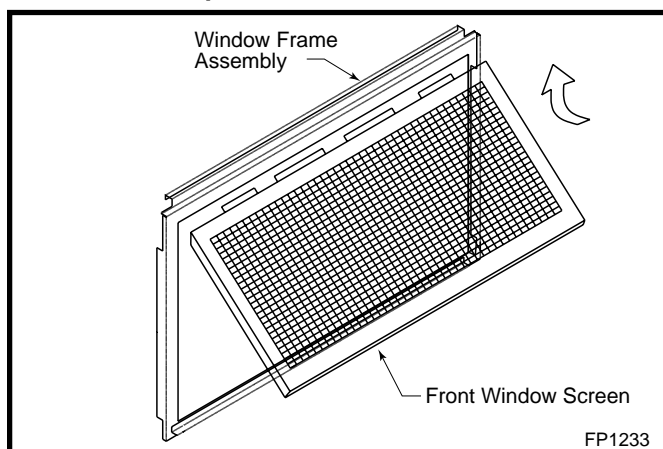

Fig. 53 Front window screen.
**Installation**, refer Figure 53.